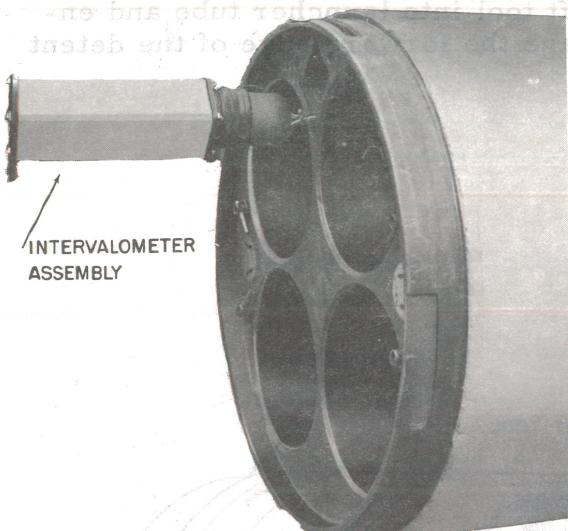

Figure 25 – Intervalometer Removed from Launcher for Testing at NAD.
**Tests of Launcher Intervalometer.** The following procedures should be employed using a 24-30-volt-DC power source: Figure 25 shows the intervalometer removed from the launcher for continuity check, which is done only at NAD.